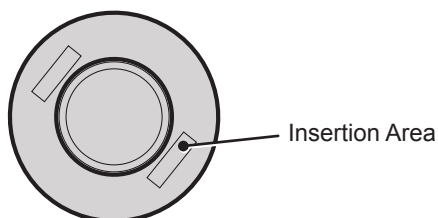

Figure 31, Plug Seal (26)
1. Remove the bypass plate (22) from the center section.
2. Remove the plug seals (26) and discard. Refer to figure 31, on page 35.
Refer to Figure 31
In order to gain access to the check plugs (24 & 25), it is necessary to remove the plug seals (26). This is accomplished by inserting a seal hook or puller into, and through, one of the insertion points (*rectangular recesses*) on the plug seal, refer to figure 31. After successfully removing the plug seals, discard and replace with new seals.